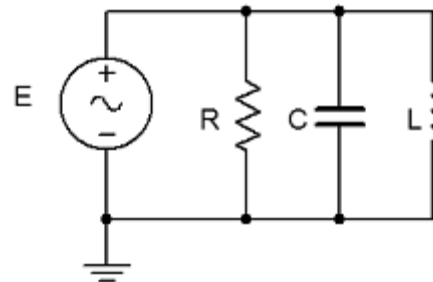

Figure 1
1. Using Figure 1 with a 10 V p-p 10 kHz source, $R=1\text{k}\Omega$, $C=10\text{nF}$ and $L=10\text{mH}$, determine the theoretical capacitive reactance, inductive reactance and circuit impedance, and record the results in Table 1 (the experimental portion of this table will be filled out in step 5). Using the current divider rule, compute the currents in resistor(i_R), inductor(i_L) and capacitor(i_C) and record them in Table 2.
2. Build the circuit of Figure 1 using $R=1\text{k}\Omega$, $L=10\text{mH}$ and $C=10\text{nF}$. A common method to measure current using the oscilloscope is to place a small current sense resistor in line with the current of interest. If the resistor is much smaller than the surrounding reactance it will have a minimal effect on the current. Because the voltage and current of the resistor are always in phase with each other, the relative phase of the current in question must be the same as that of the sensing resistor's voltage. Each of the three circuit currents will be measured separately and with respect to the source in order to determine relative phase. To measure the total current, place a 10Ω resistor between ground and the